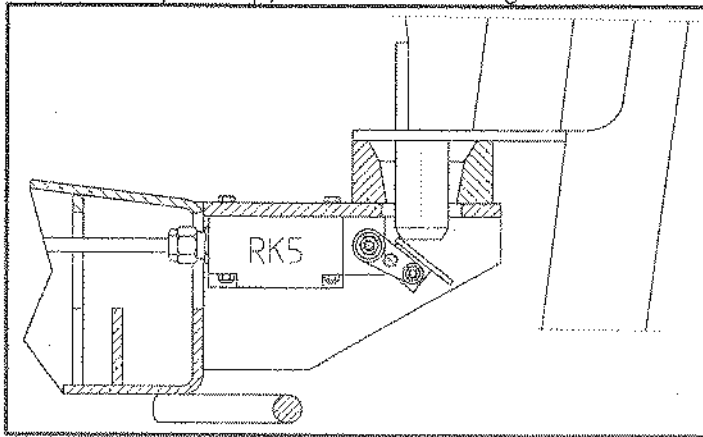

Figure 18-4
- Position of the limit switch when the booms are not on the transport support is shown in figure 18-4.